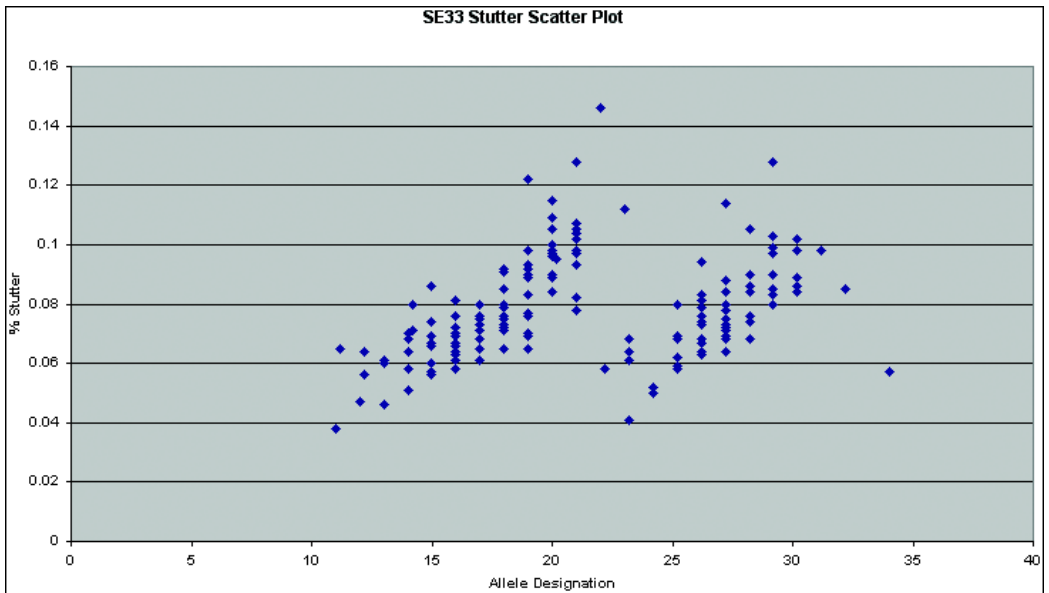

Figure 8-12 SE33 stutter scatter plot
- Data generated for SE33 locus are shown in Figure 8-12.